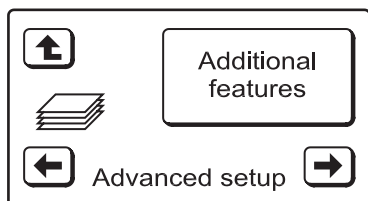

FIG. 58
3. Press the ADVANCED SETUP button to display the screen shown in Figure 58.